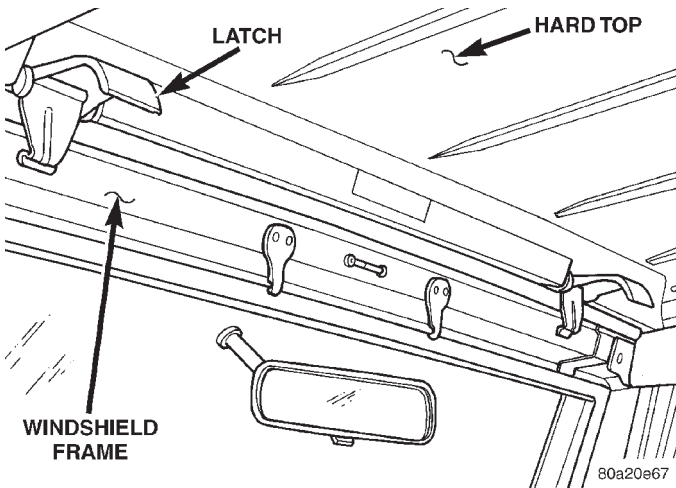

Fig. 42 Hard Top Latch
- (1) Disengage latches at windshield frame (Fig. 42).